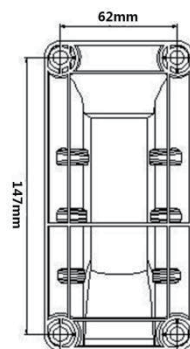

Fig.2
3. Take the mounting bracket as a template to mark the position for screws and drill four holes on the wall( Fig.2)